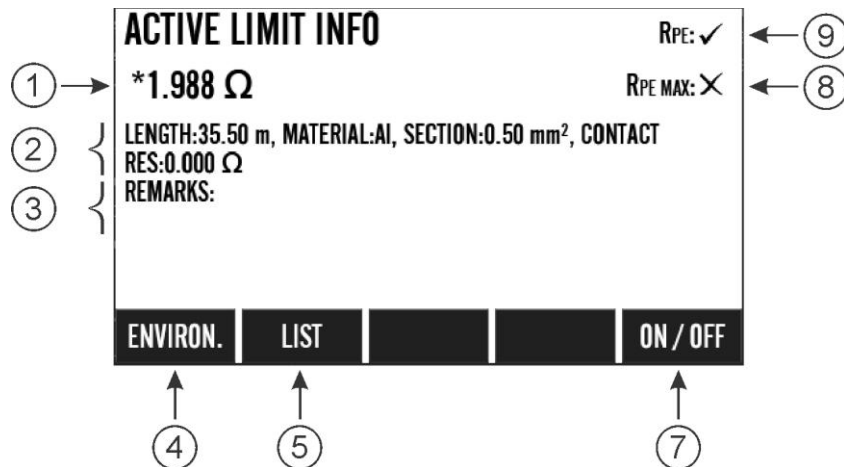

Figure 10: ACTIVE LIMIT INFO screen (RPE function), example
- 7 "ON/OFF" menu key to toggle between enabled (✓) or disabled (X) judgement. Set judgement status is valid for actually selected function only and can be independently set in each function separately.
- 8 Sub-result (RPE MAX) is judged (✓) or not (X). Status of the judgement is set by using the "ON/OFF" menu key. Note: Not all measurement functions offer MAX value.
- 9 Main result (RPE, or IPEFC) is judged (✓) or not judged (X). Status of the judgement is set by using the "ON/OFF" menu key.
- 2) Use offered menu keys (see the figure 10 or 11 above) to set the limit value. Functions have different possibilities, see the list of available menu keys in each function individually.
- 2..... Customer-entered limit (marked with *). The limit was entered through calculation, so the calculation parameters are listed in the second line (under limit value). There are also remarks (if any) shown in the same line. Complete calculation parameters and remarks (even if longer than shown in the second line) could be seen on the figure 10 or 11.
- 4..... Customer-entered limit (marked with *). The limit was entered directly through internal numerical keyboard. Potential remarks are shown in the second line (under limit value). Complete remarks (even if longer than one line) could be seen on the figure 10 or 11 if this limit would be currently selected.